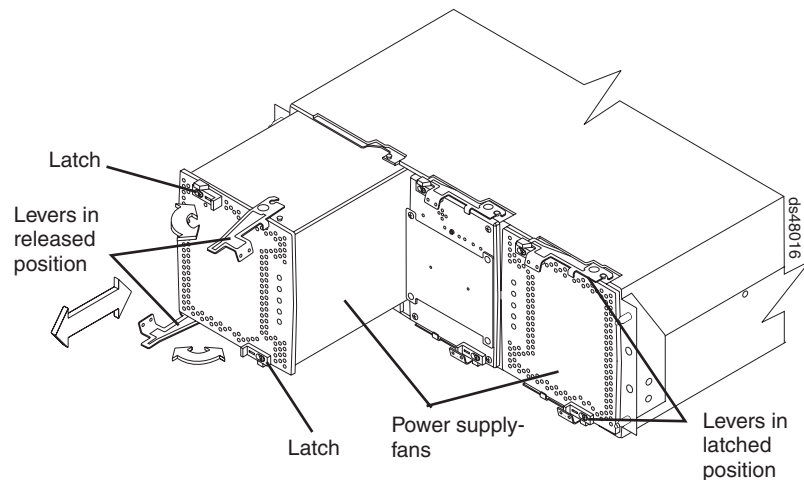

Figure 90. Removing a power supply-fan from the DS4800
9. Unlatch the top and bottom levers on the failed power supply-fan. Rotate both levers out simultaneously and remove the failed power supply-fan. (Figure 90 on page 147 shows a power supply-fan sliding from the storage subsystem chassis.)